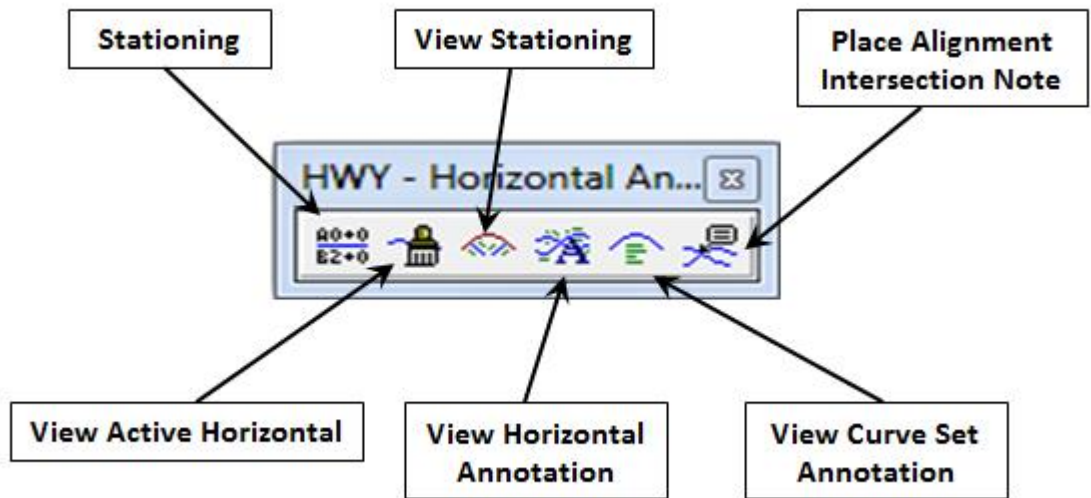

Figure 4-6 InRoads HWY Custom Horizontal Annotation Toolbar
- Click **Close** and the tool bar will open. This can be docked anywhere on the screen. The six commands on this toolbar will need to be completed to correctly annotate the alignment. Figure 4-6 displays the HWY Horizontal Annotation Toolbar.